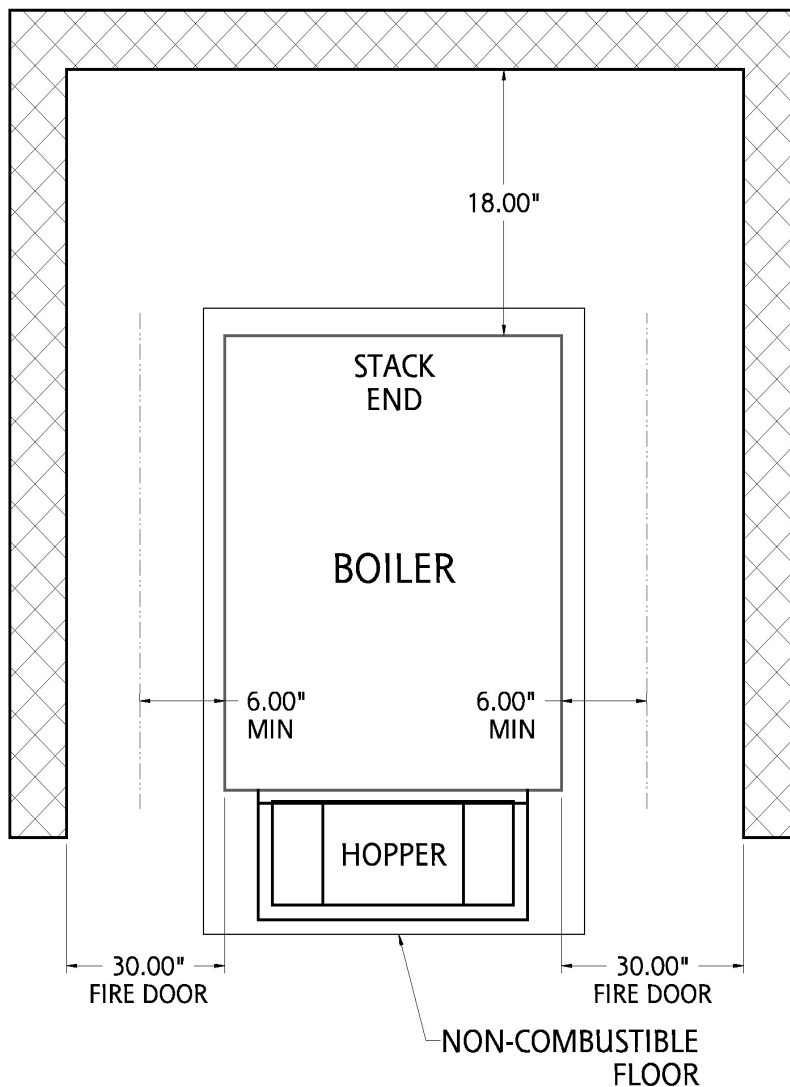

FIGURE 1
- Boilers must be installed on a noncombustible floor. Keystoker boilers are available with fire door on the right or left side. When you stand at the stoker end of the boiler and look directly over top of boiler toward stack end, you may choose to have a fire door on the right or left side of boiler. Selecting a position to make this door accessible is important. When door side must be placed toward a wall, 30" clearance is recommended for easy fire and ash door access. Clearance from wall at stack end should be 18" to permit removal of water heating coil if necessary and easy access for removal and cleaning of stack pipe. Clearance on blank and hopper sides should be 6". Clearance from the top of the boiler to a combustible is 12". Refer to Figure 1. For industrial and commercial installations please follow local codes.